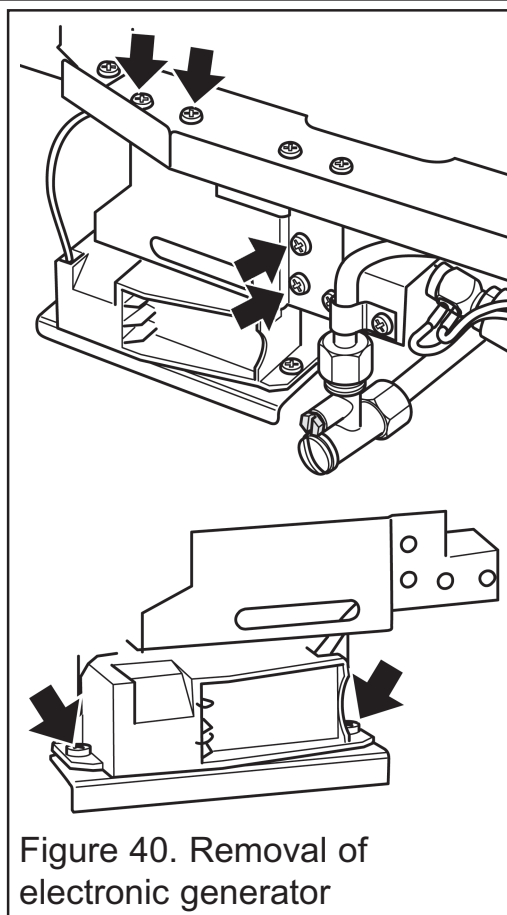

Figure 40. Removal of electronic generator
2. Loosen the thermocouple nut to free the microswitch leads and pull the leads clear of the thermocouple interrupter block (See figure 40).
5. Unscrew the four support bracket screws (See figure 40). The generator and its support bracket can now be moved forward. Be careful not to apply tension to the microswitch leads.
6. Remove the two fixing screws that attach the generator unit to the support bracket. The igniter generator can now be removed (See figure 40)
## 17.7 To remove the thermocouple interrupter block (See figure 40).